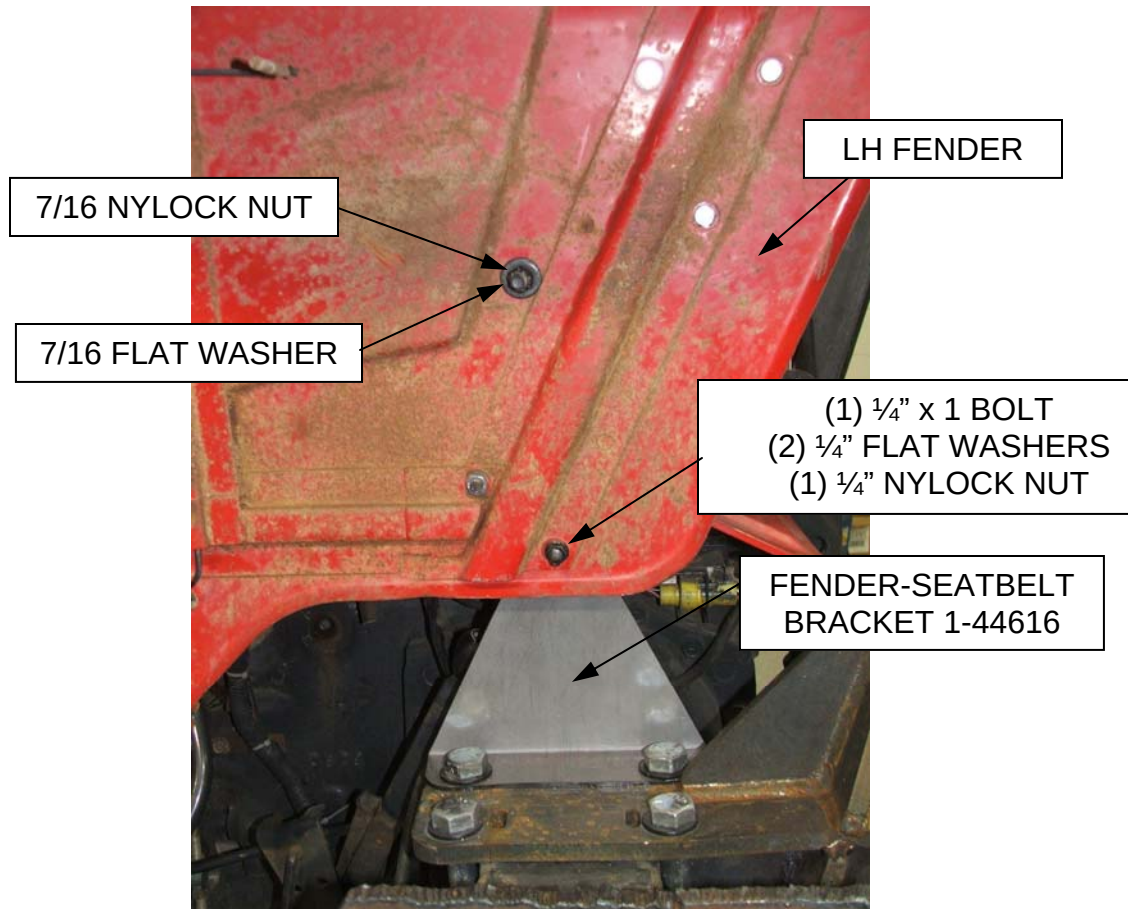

Figure 3
Seatbelt Installation (Refer to Figures 3 & 4)
- 12) Layout and drill (1) $\frac{1}{2}$ " diameter hole through each fender as shown in Figure 3.
- 13) Install the seat belt to each fender using (2) 7/16-14unc x 1.25 grade 5 bolts, (4) 7/16" flat washers and (2) 7/16-14unc grade 5 nylock nuts.